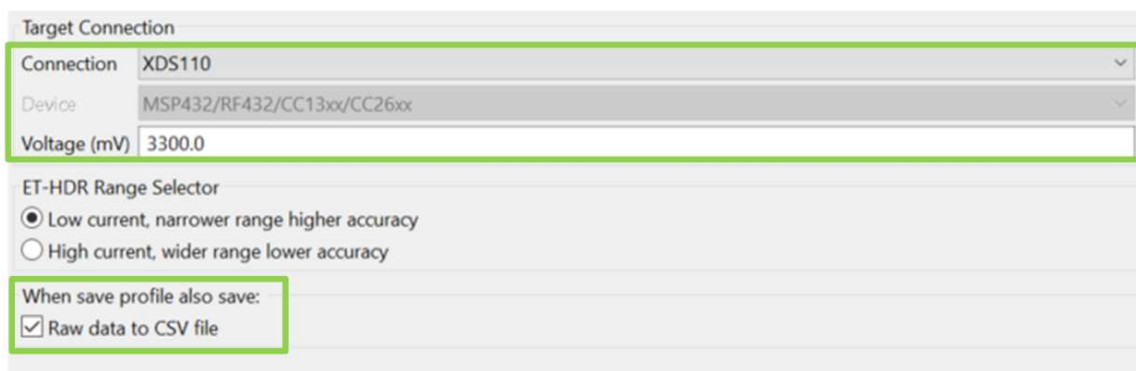

Figure 20. EnergyTrace™ Settings
- Open CCS and go to Window → Preferences → Code Composer Studio → Advanced Tools → EnergyTrace Technology. Under Target Connection, configure Connection to be XDS110 and Voltage to 3300 mV. Additionally, check the box next to Raw data to CSV file. Figure 20 shows the specified fields.